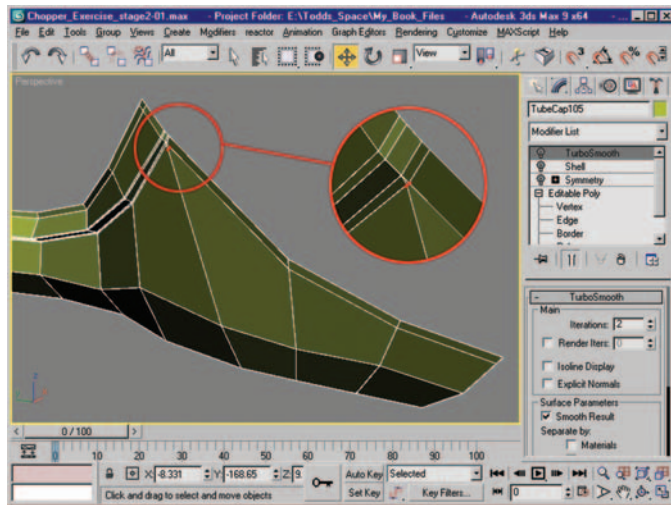

Figure 8.78 Edge selection to be collapsed. Collapsing the edge restores all Quads to the area.
78. The previous step created a Tri N -gon toward the rear of the mesh. Use the Collapse technique we used earlier to eliminate the N -gon. Figure 8.78 shows the edge to be collapsed.